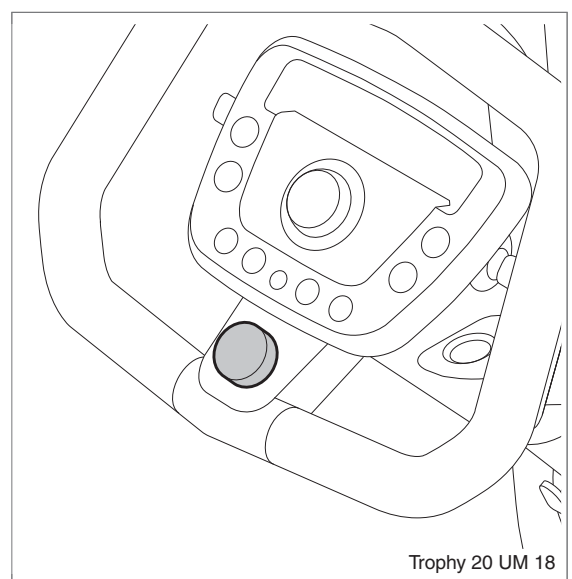

Figure 15
- In case of emergency the optional emergency stop button can be pushed. The scooter will make an emergency stop (figure 15). After using the emergency stop button, it needs to be pulled back by turning it clockwise (as indicated on the emergency stop button) and the ignition key needs to be turned off and on again to proceed driving.